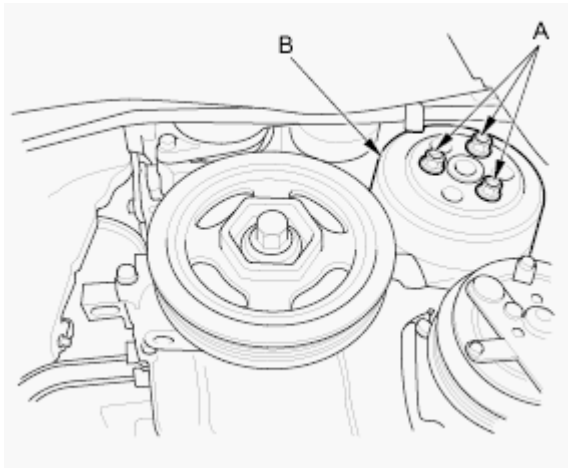

Fig. 22: Identifying Water Pump Pulley And Mounting Bolts
6. Loosen the water pump pulley mounting bolts (A). (See **Fig. 22**)
8. Remove the water pump pulley (B).